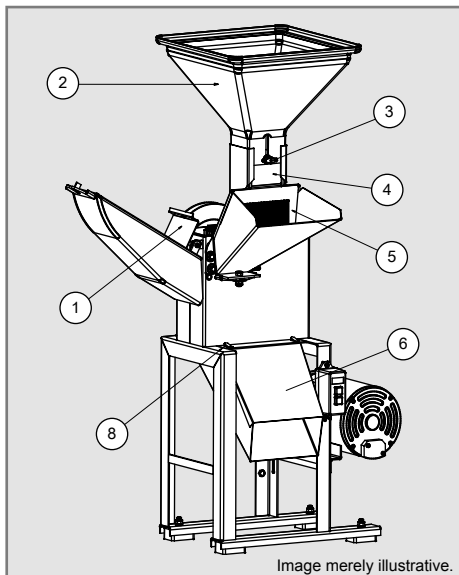

Fig. 1
- ✓ Fit the cover plate (1), according to figure 1. Except for models TRF 50, TRF 60 and TRF 70.
- ✓ Mount the green crop funnel cover (5) according to figure 1.
- ✓ The dry product is placed in the grain funnel (2), from where it is directed to be processed, the final product being poured in the material output funnel (6). Place a container or a raffia bag under the material output funnel (6) in order to collect the crushed material, according to figure 1. In models TRF 50, TRF 60 and TRF 70, the material will get out from the machine through the lower part of the shredder body (7), and a container or a raffia bag can also be used to collect the crushed material, according to figure 2.
- ✓ The TRAPP shredders are provided with a support to fit a raffia bag or another type of container in order to facilitate the crushed material collection, as indicated (8), according to figures 1 and 2.
- ✓ Be careful **not to overload the motor**. Regulate the grain input adjuster according to the shredder's capacity to grind and to the strainer chosen. The regulation of the grain input adjuster is done in the following way: loosen the wing nut (3) located underneath the grain input adjuster. Once the regulator (4) is free, pull in case you need a bigger opening, and push in case you need a smaller opening. After regulating, tighten the wing nut (3), according to figures 1 and 2.